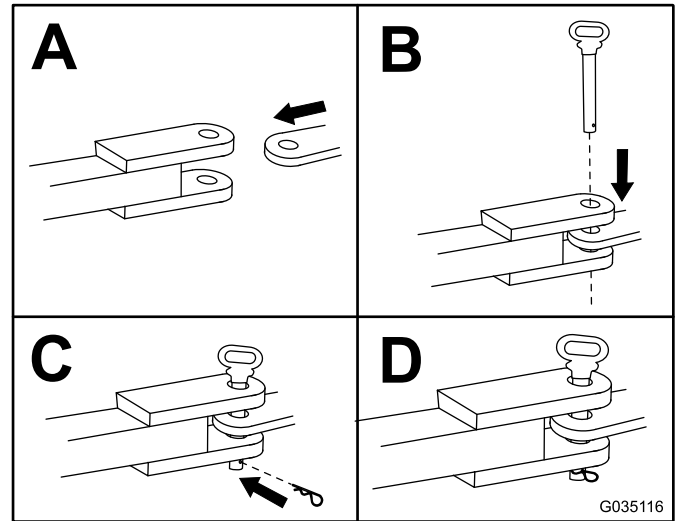

Figure 25
1. Using a 19 mm (3/4 inch) or 22 mm (7/8 inch) hitch pin, hitch the machine as shown in Figure 25.